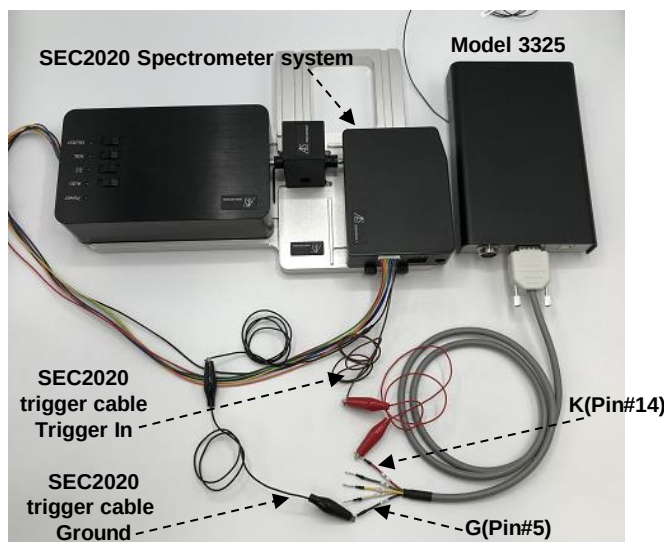

Figure 3-1 Trigger connection of Model 3325 and SEC2020
- Figure 3-1 is an example of trigger connection for Model 3325 Bi-Potentiostat and SEC2020 Spectrometer system.
- Please refer to Figure 3-1 and Table 3-1.